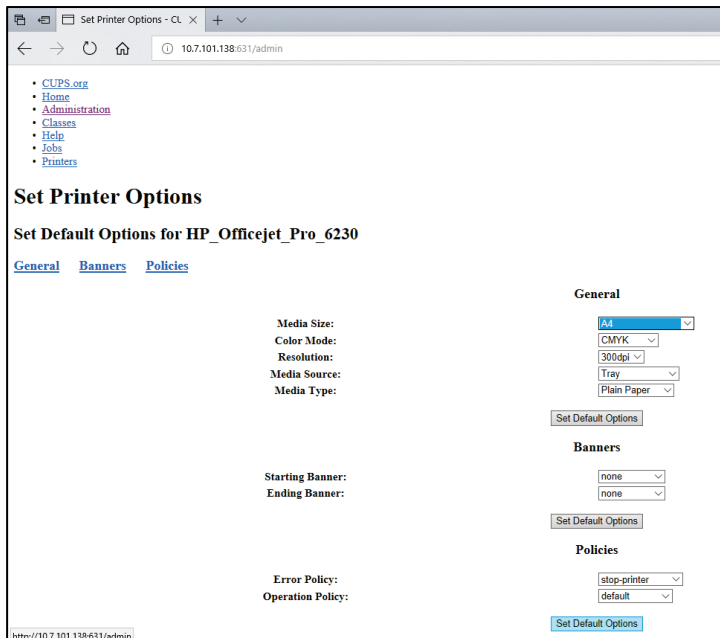

Figure 78. Selecting correct Media Size.
7. Select the correct **Media Size** (such as "A4") because some printers will not print if the paper format is incorrect. Next, save the selection by pressing **Set Default Options** (Figure 78).